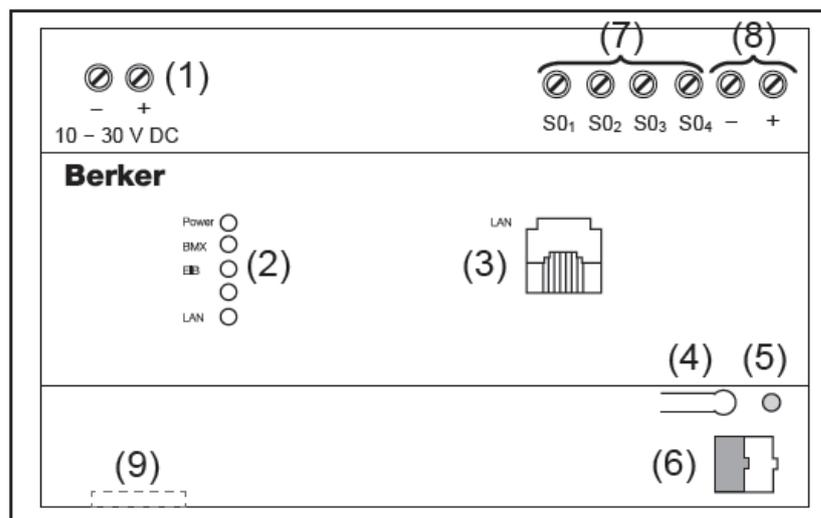

Figure 1: Device overview
**The S0-terminals (figure 1, 7 - 8) are not suitable for mains voltage 230 V AC.**